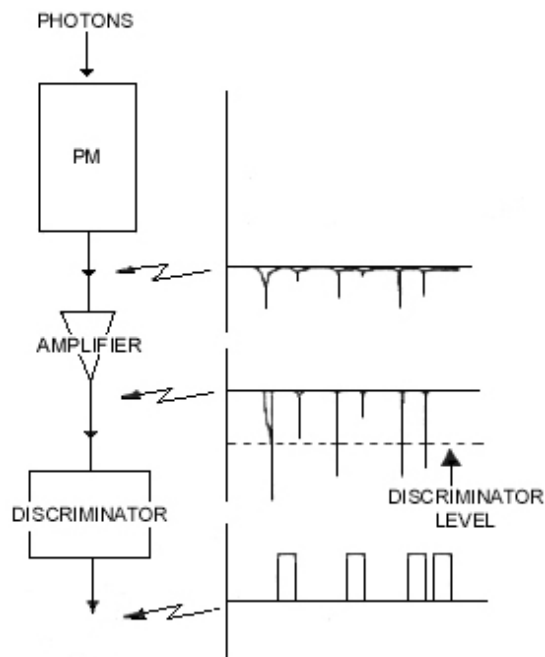

Figure 2. Block diagram of a photon counter.
The pulses are then transmitted to an amplifier, then on to a discriminator, which filters out the lower-intensity noise pulses (Figure 2). A second amplifier (not shown in Figure 2) changes the voltage to a useable level.
- The signal-to-noise ratio of the data is higher. Most noise is generated after the cathode, usually in the dynode chain. These noise pulses are lower intensity and are removed by the discriminator (Figure 2). In the analog system, noise gets added directly to the signal, and thus cannot be removed.